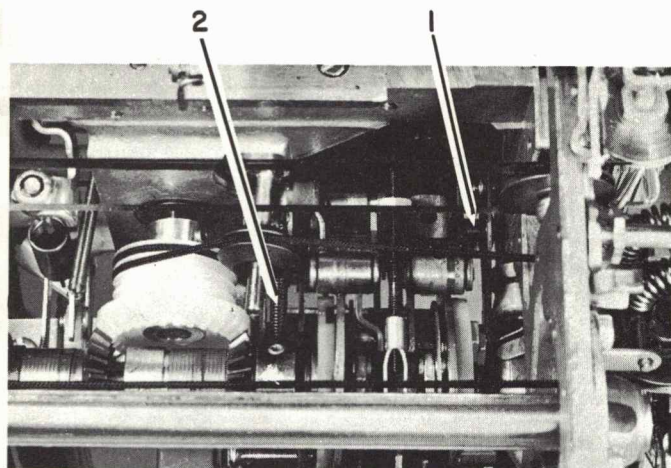

FIGURE 41. Operational Cam Follower Removal
1. Remove the C-clips from the cam-follower pivot shaft (#1, Figure 41).
2. Remove the auxiliary cam-follower spring (#2, Figure 41).